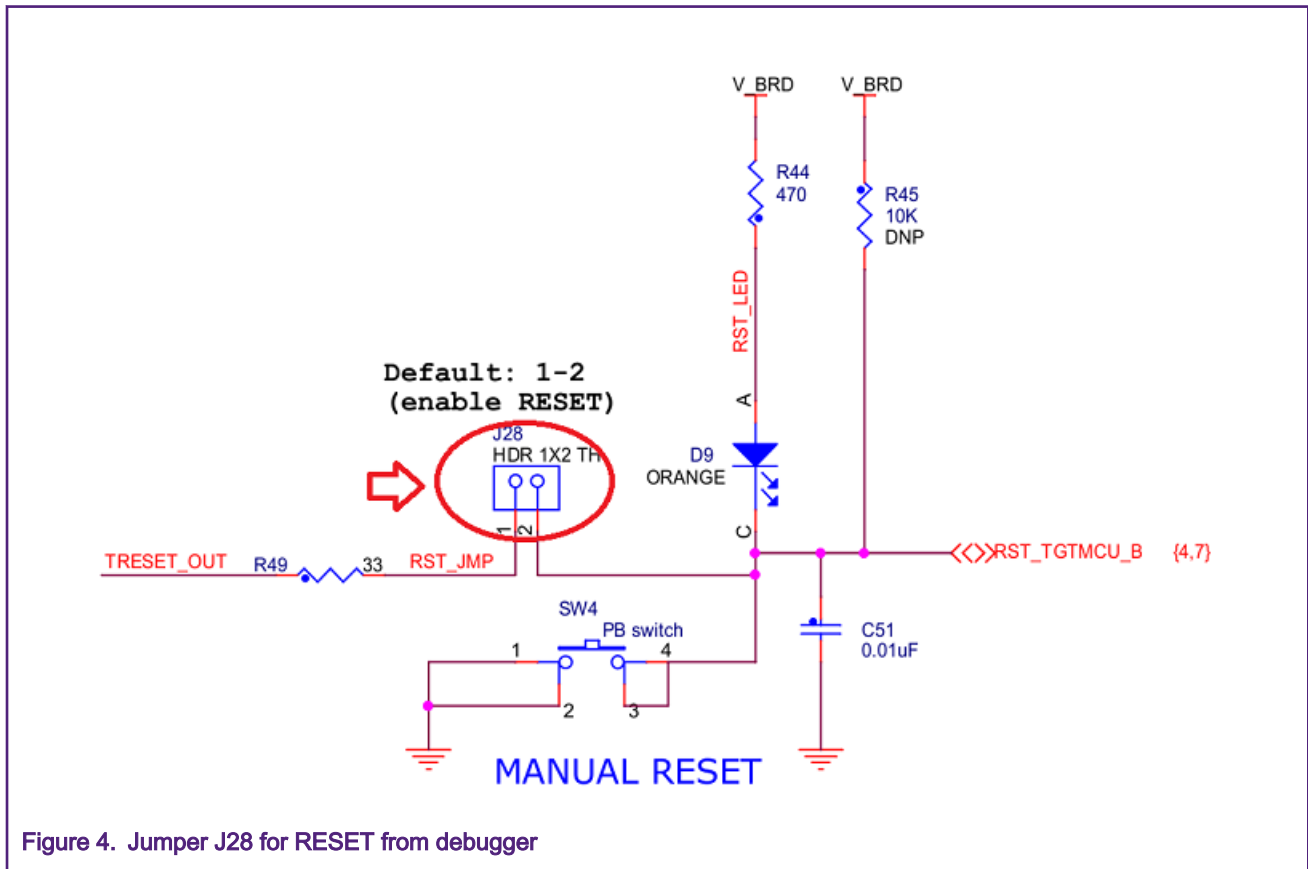

Figure 4. Jumper J28 for RESET from debugger
- The RESET pin should never be disabled since it would be used as the final wakeup source. However, the debugger connects the RESET wire on the TWR-KM35Z75M board now. So the jumper J28 is required to be removed from the board. See Figure 4.